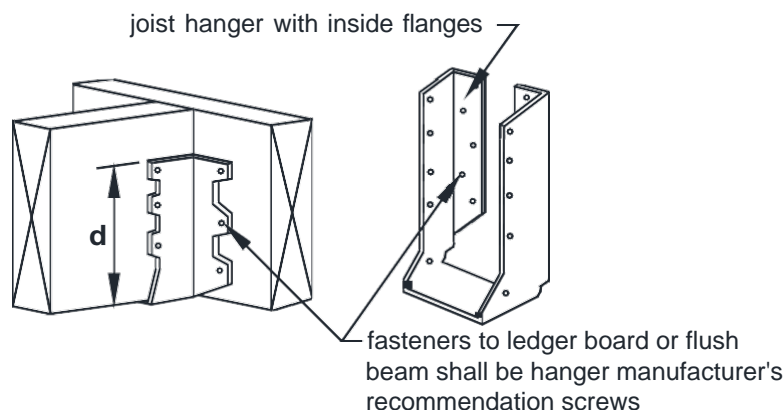

FIGURE 9: JOIST HANGERS
- Joist hanger depth, d , as shown in FIGURE 9, shall be greater than or equal to 60 percent of the joist depth.